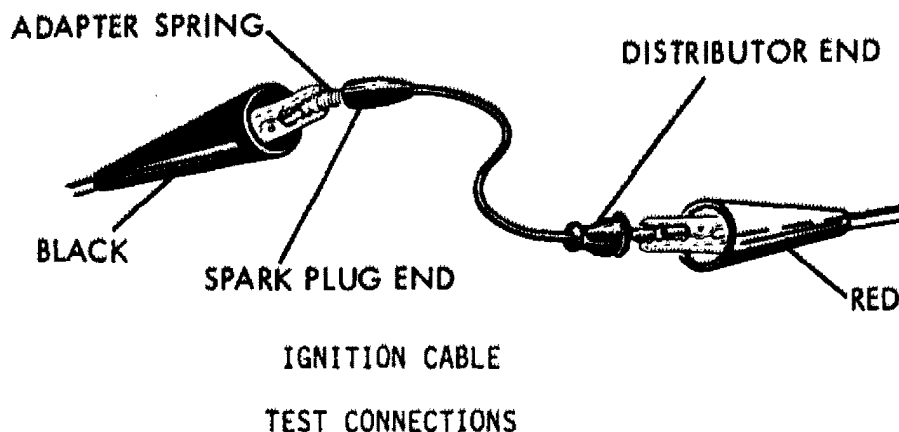

FIGURE 44
3. Connect the RED and BLACK Ohmmeter test leads to the ends of the cable as shown below, and use an adaptor spring at the SPARK PLUG END of the cable as shown.(Figure 44)